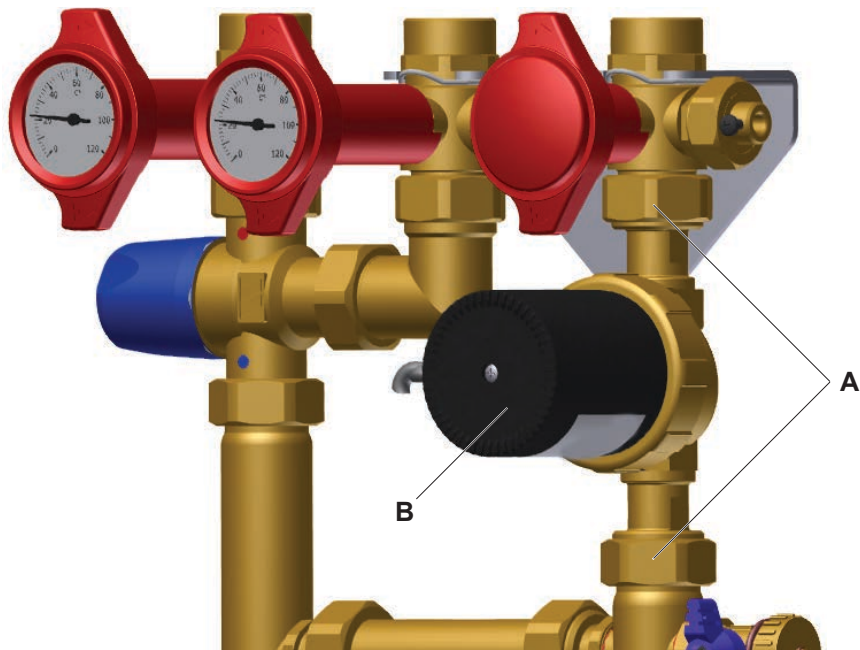

Fig. 5: Disassembling the circulation pump
- Position the circulation pump (Pos. B, see fig. 5 on page 13) and firmly screw in the nuts (Pos. A, See fig. 5 on page 13) (Tightening torques, see „Technical information“ on page 16).